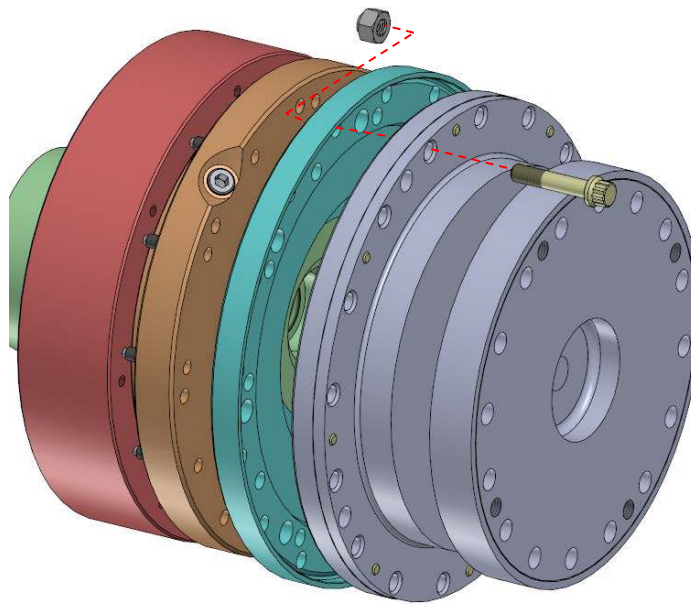

Figure 8 – Flex Assembly Installation on Hub Flange
4.1.1 Install one flex assembly onto the hub as shown in Figure 8 aligning the holes using Qty (4) bolts and nuts spaced 90 degrees apart. Tighten the bolts/nuts a few turns at a time in a criss-cross pattern to seat the pilot evenly. Install the remaining bolts and nuts and torque evenly in a criss-cross pattern to the torque shown on drawing HC-8157.